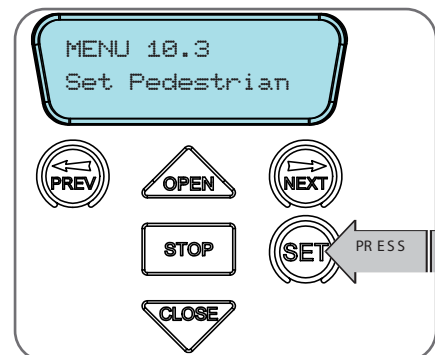

Fig 12.1
- Press SET on the wall control unit to save the Pedestrian Access position (**Fig. 12.1**).